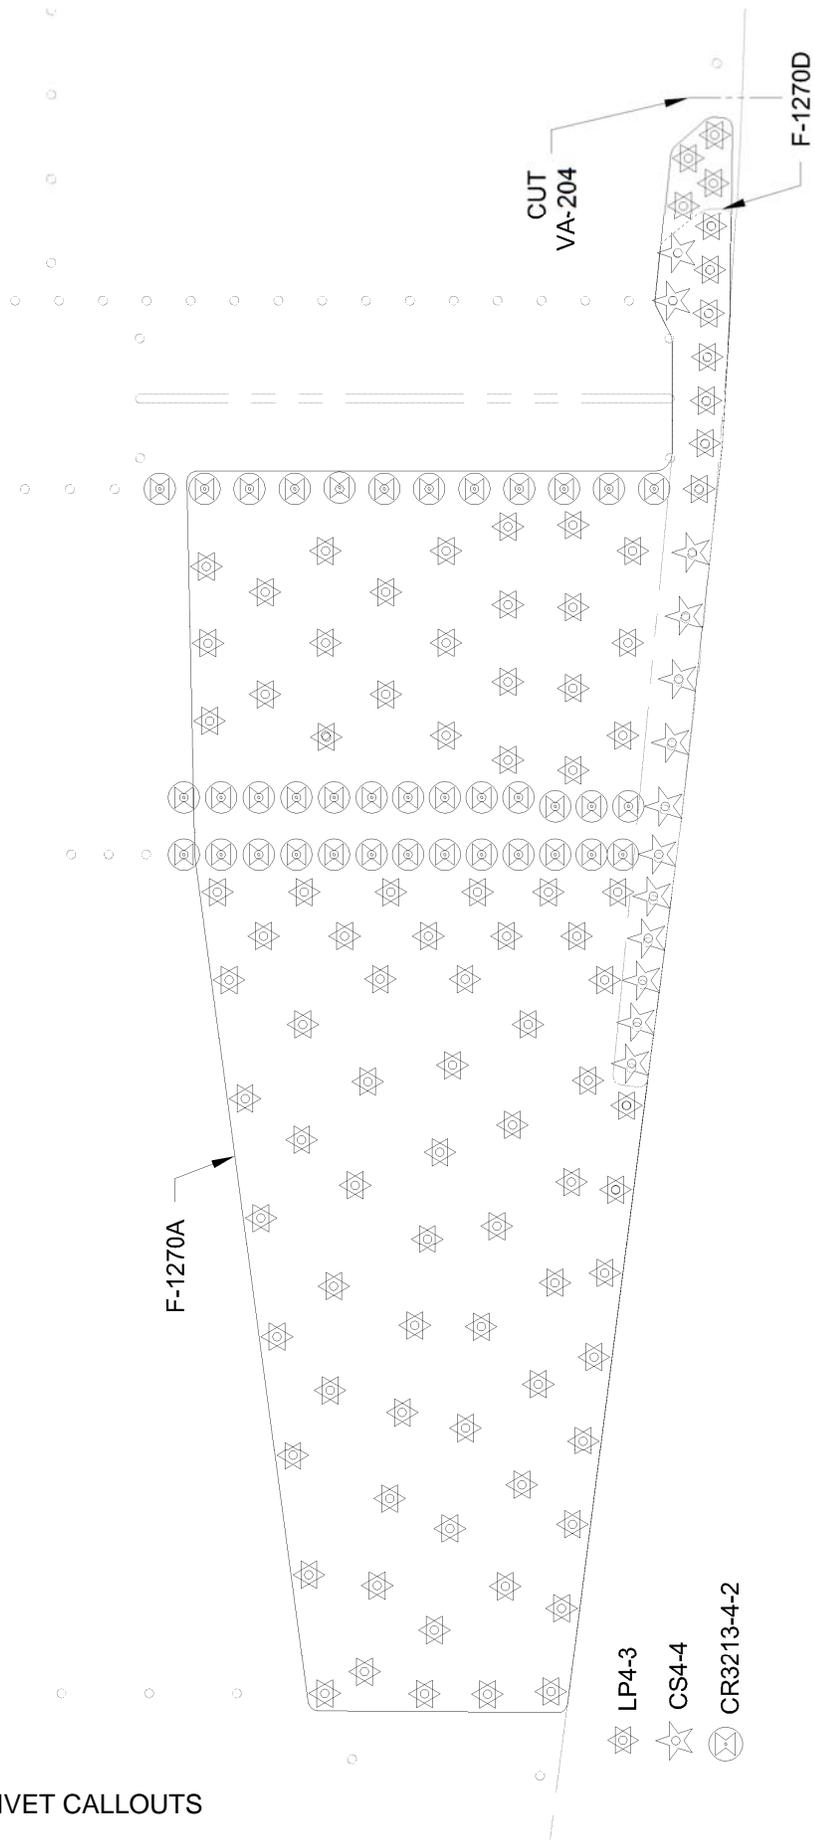

FIGURE 6: RIVET CALLOUTS
Step 14: Cut the wing root seal with a razor blade at the location shown in Fig 6. Remove the portion of the wing root seal strip aft of the cut point by using a sharpened wood Popsicle type stick to lift the seal away as you pull it with your opposite hand. See Figures 3 and 4.
Remove all rivets that have rivet callouts depicted in Figure 6
Step 22: Machine countersink all of the rivet locations in the F-1270A and F-1270D Side Skin Doublers where CS4-4 rivets will be installed. Use a 120 Degree cutter with a #30 pilot and cut just deep enough for a flush fit of the rivet. See Figure 6.
Step 31: Rivet the F-1270A and F-1270D Side Skin Doublers to the fuselage structure using the rivet callouts in Figure 6.